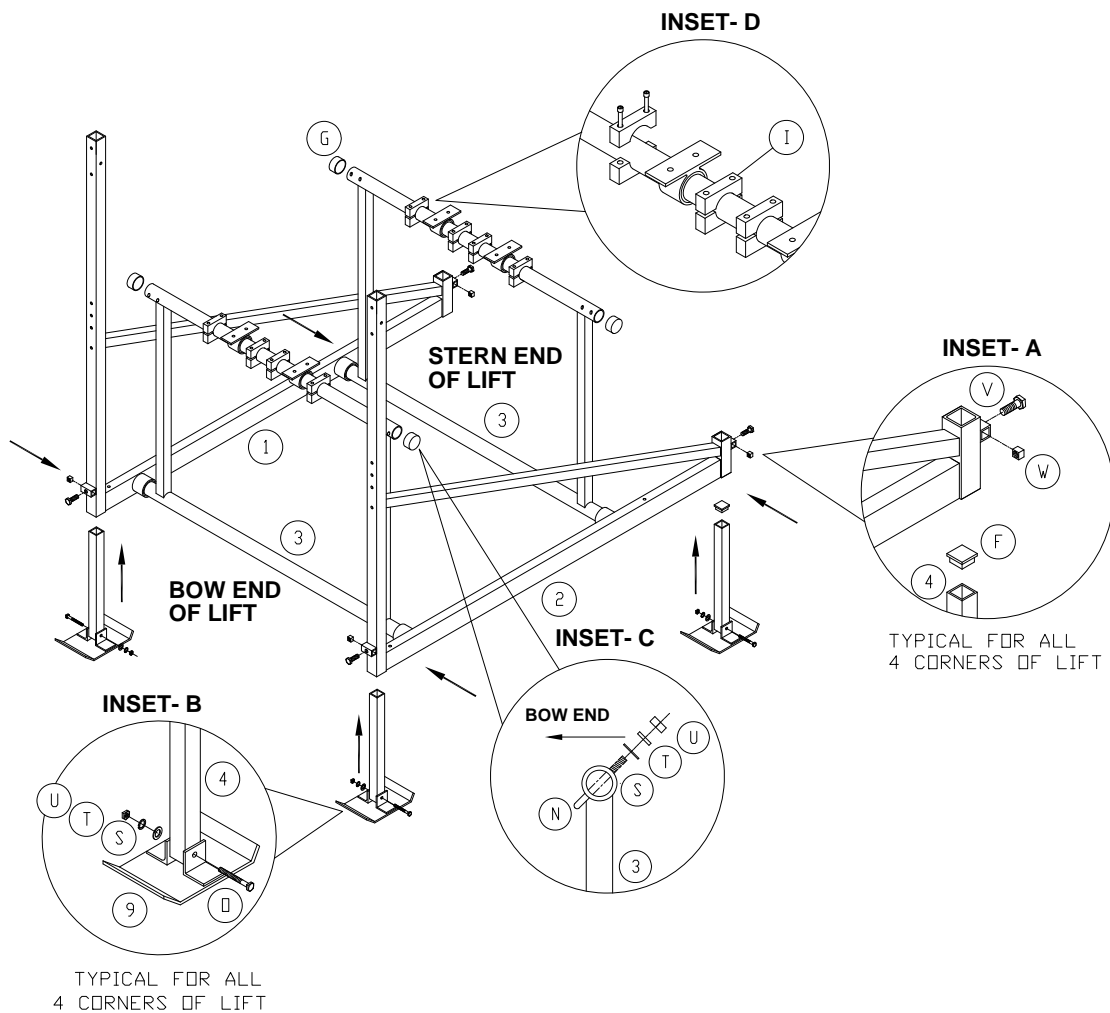

Figure 3-1.
1. Refer to **Figure 3-1**. Attach foot plate (9) to extension leg (4) as shown in **Inset B**. Repeat procedure for all four foot plates.
2. Insert plastic cap (F) into the top of the two extension legs at the stern end of the lift. Then insert the four extension legs into the side assemblies with the nut-end of the bolts facing inward for safety.
3. Insert square nut (W) into the captured nut housings of both side assemblies as shown in **Inset A** and secure using specified hex head cap screw (V). Repeat procedure for all four corners of the lift. This screw/nut assembly is a locking device for the adjustable extension legs.
1. Refer to **Figure 3-1**. Insert plastic cap (G) into the ends of the lifting arm (3) top tubes.
3. Set distance of each bunk a minimum of 10” from center of lifting and trailing arm. Then mount a pair of half round clamps, approximately 2” away from each side of bunk bearing housing as shown in **Figure 3-1, Inset D**. When fastening the clamps together, use clamp with pressed in hex nuts as bottom clamp. Fine adjust bunks to fit the hull of your PWC.
1. Refer to **Figure 3-1**. Adjust extension legs to height required to keep lift level in its operating position. Tighten with lock screw at all four corners of lift as shown in **Inset A**.